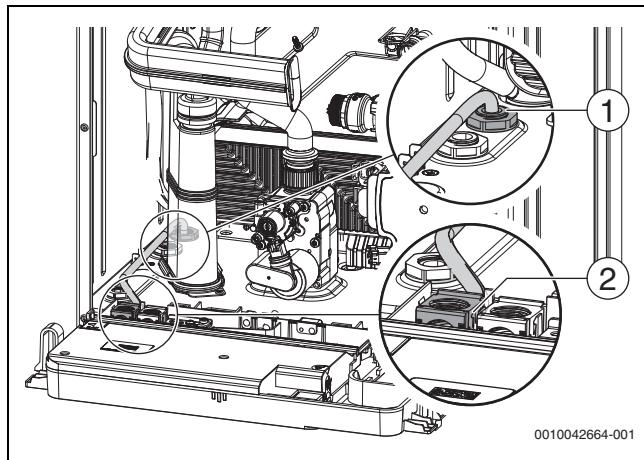

Fig. 50 Mains supply cable routing
- Mains supply cable must be routed through either of the rubber grommets in the frame assembly at the left-hand rear of the appliance → Figure 50.